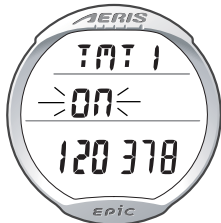

Fig. 63 - SET TMT 1
**SET TMT 1** information includes (Fig. 63):